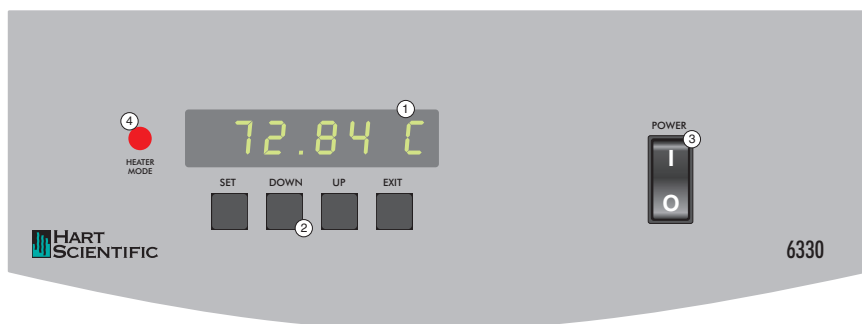

Figure 2 Front Panel Features
The following controls and indicators are present on the controller front panel (see Figure 2 below): (1) the digital LED display, (2) the control buttons, (3) the bath on/off power switch, and (4) the control indicator light.